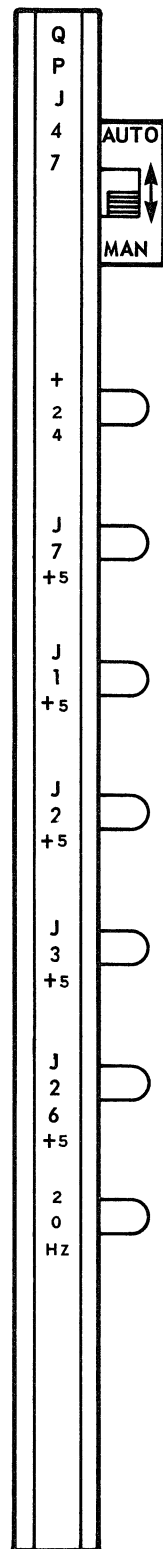

Fig. 3 – LED Arrangement on QPJ47-Type Circuit Pack
4.15 A two-position switch (Fig. 3) is mounted on the component side of the QPJ47-type circuit pack to permit either manual or automatic system reset during momentary power failures. With the switch in the lower MANUAL (MAN) position, the EPABX is reset for normal operation by pressing the RESET or PF button. When the switch is in the upper AUTOMATIC (AUTO) position, the EPABX resets automatically, if all voltages are present and within limits; otherwise the system remains in PFT mode.
4.16 Aligned with the handle on the component side of the circuit pack, are seven LED monitoring power supplies from both power shelves. The LED indicates a failure of power when lit. Markings next to the LED on the handle (Fig. 3) indicate the voltage monitored by each LED.